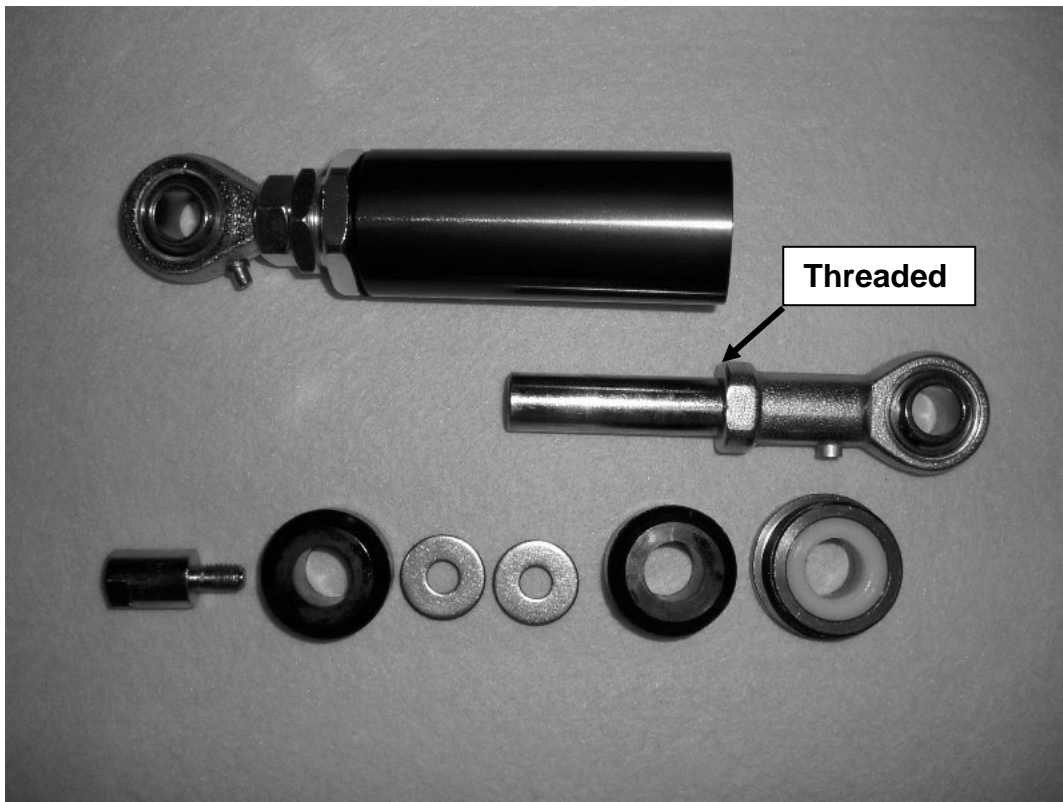

Figure 3
3. Figure 3 shows an exploded view all the assembly parts in the order they go on the shaft. Note there are two parts to the shaft. The small shaft part on the left has two flats that fit a 10mm open end wrench. The mount end has two flats that will fit a 17mm wrench. Using the two wrenches mentioned hold the mount end wrench and turn the shaft end wrench counter clockwise. Note the mount end shaft thread is not shown disassembled.